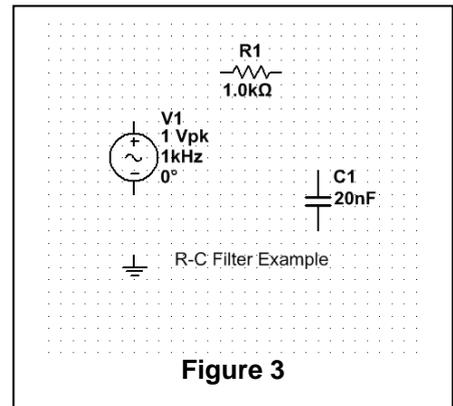

Figure 3
2. Select each component and position it on the screen in the order shown in figure 3 below. To move component symbols around, hold down the left mouse button whilst you move the
Note also that the capacitor C1 in Fig 3 has been rotated through 90°. Select the component with the right mouse button then select 'rotate 90 degrees clockwise'. The component rotates but the component identification does not rotate. A text box has also been added. From the top menu **Place > Text**.